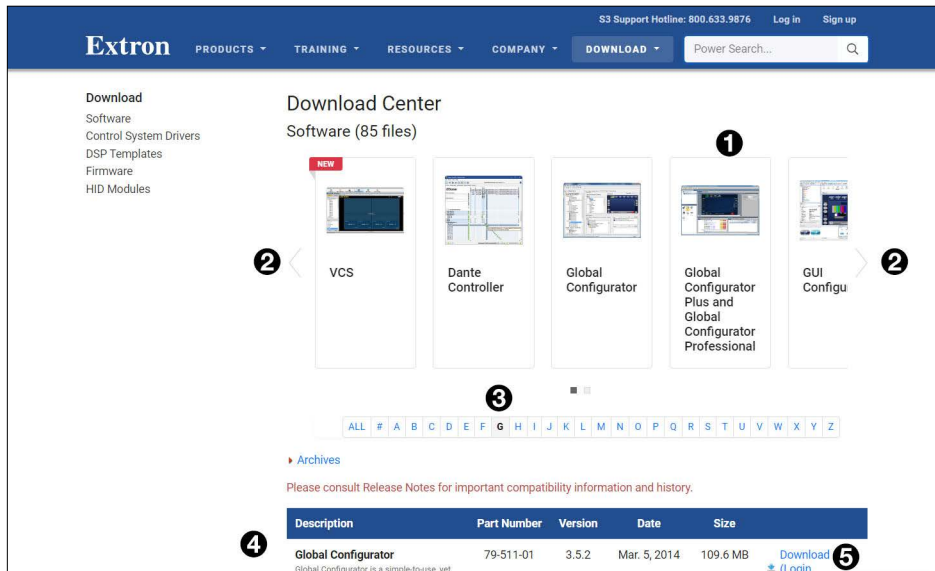

Figure 7. Download Center Software Page
4. If the software appears at the top of the page, click on the product (see figure 7, ①), which takes you to the product page on the Extron website. This provides further information about the product. Click **Download** and follow the on-screen instructions to download the software.
5. If you do not see the product, use the < or > arrows (②) to see other options.
6. If the product is not listed in the top section of the page, click the initial letter of the software product name (③). Software products with that initial letter are listed at the bottom of the page (④).
7. Click **Download** (⑤) and follow the on-screen instructions to download the software.